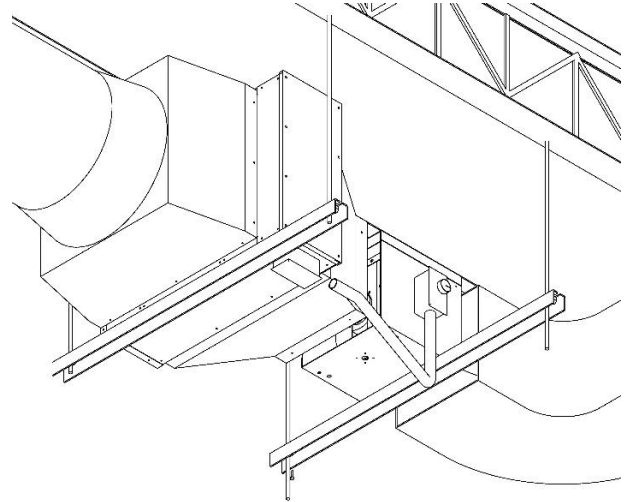

Figure 19
6.) Pull motor housing out of duct adapter. See Figure 19. Lower motor housing to ground or work surface.